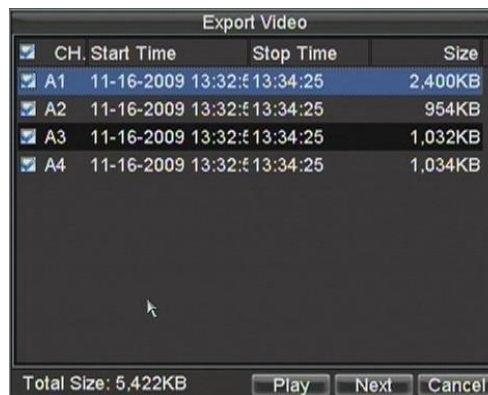

Figure 2. Video Search Results
4. Select the files to export, as shown in Figure 2. You may also click the Play button to verify that these files are indeed the ones you would like to export.